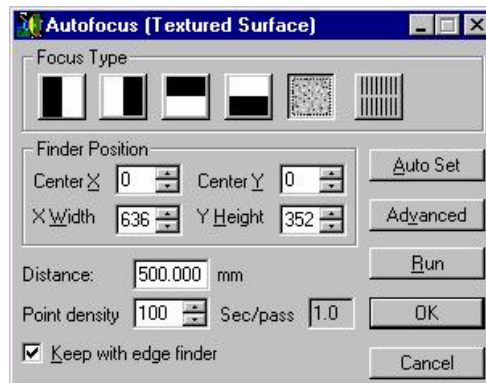

Figure 8-14 The Autofocus Menu
6. Select the Autofocus finder; and in the Autofocus menu, select the Smooth (project grid) focus; see Figure 8-14.